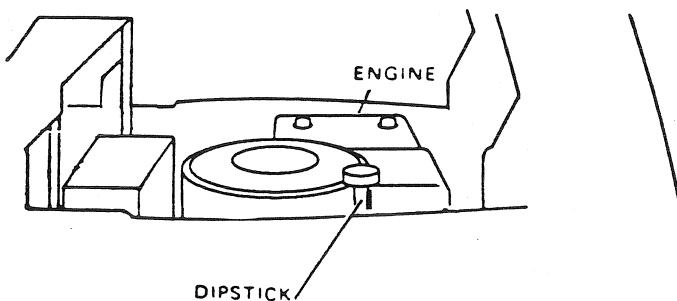
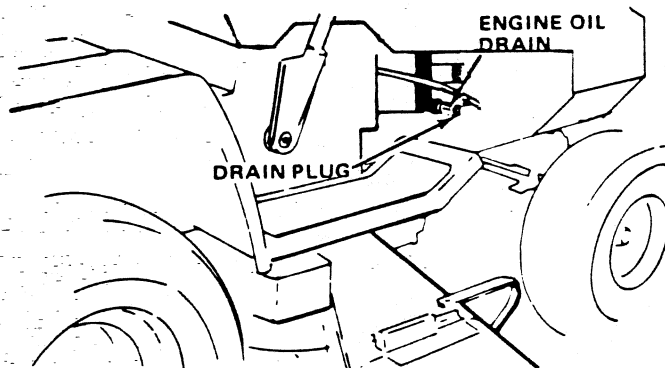

FIGURE 13
FIGURE 14
- a. Drain Oil with Engine warm. Loosen Oil Drain Plug (Fig. 14) and remove dipstick (Fig. 13). Catch Oil in a suitable container. Replace Plug.
Wipe dipstick (Fig. 13) clean, screw it down tight for a few seconds, remove and read Oil Level. If necessary, add Oil until "FULL" mark is reached. See chart, page 4). NOTE: DO NOT OVERFILL.